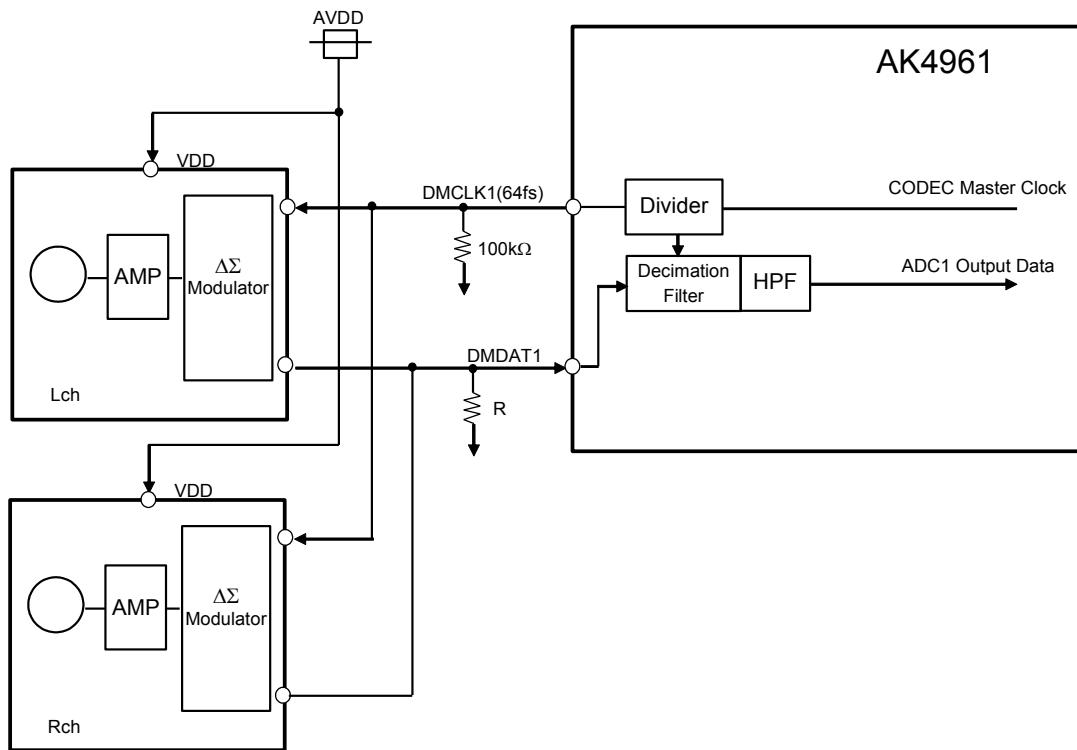
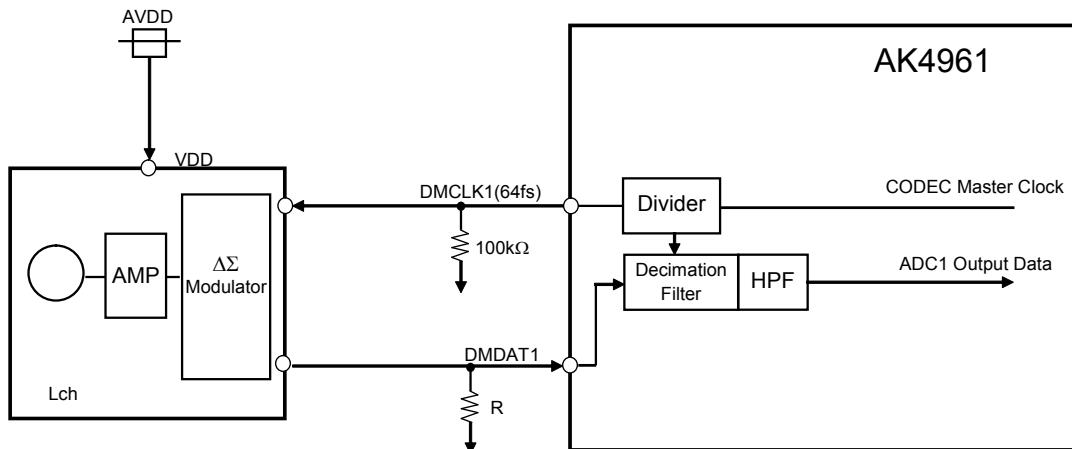

Figure 24. Connection Example of Stereo Digital Microphone (DMIC1 bit = “1”)
Figure 25. Connection Example of Mono Digital Microphone (DMIC1 bit = “1”)
The same power supply as AVDD1 must be provided to the digital microphone. The Figure 24 and Figure 25 show mono/stereo connection examples. The DMCLK1 (DMCLK2) signal is output from the AK4961, and the digital microphone outputs 1bit data, which generated by  $\Delta\Sigma$ Modulator, from DMDAT1 (DMDAT2). PMDM1L/R (PMMD2L/R) bits control power up/down of the digital block (Decimation Filter and HPF). PMAD1L/R (PMMD2L/R) bits settings do not affect the digital microphone power management. The DCLKE1 (DCLKE2) bit controls ON/OFF of the output clock from the DMCLK1 (DMCLK2) pin. When the AK4961 is powered-up (PDN pin = “H”), external pull-down resistor(R) should be connected to the DMDAT1 (DMDAT2) pin to avoid floating state.